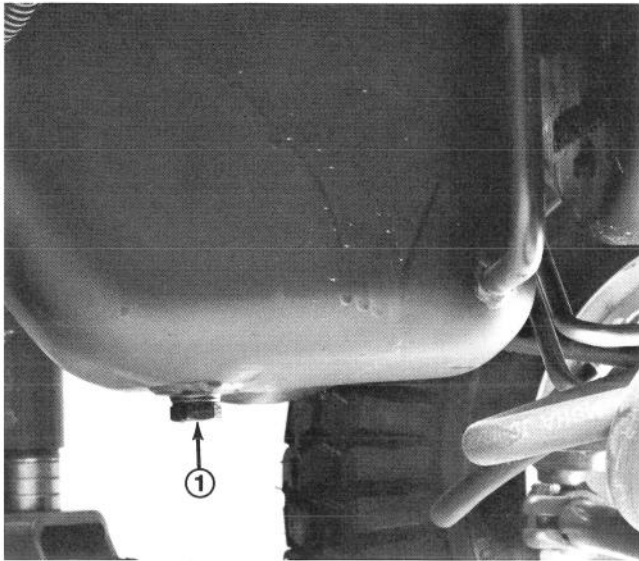

Figure 32
2. Place drain pan in line with the drain plug (Fig. 32). Clean area around drain plug.